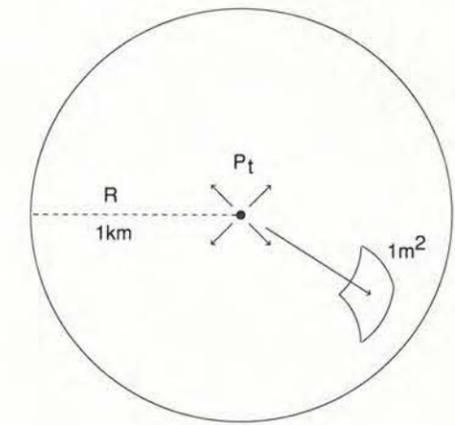

Fig. 2. An ideal isotropic antenna radiates energy into space with equal intensity in every direction.
Figure 2 shows an ideal isotropic antenna located in free space, radiating a power P_t . Resulting power density D , in watts per square metre, at a range d , in metres, is given by,
ideal isotropic antenna identical to that of Fig. 2 – i.e. also appropriate to the frequency concerned – immersed in the field given by expression (2). It will pick up an amount of power determined by its effective area, known as its 'effective aperture'. The effective aperture A , in square metres, of an isotropic antenna suitable for operating at a frequency f MHz is given by,